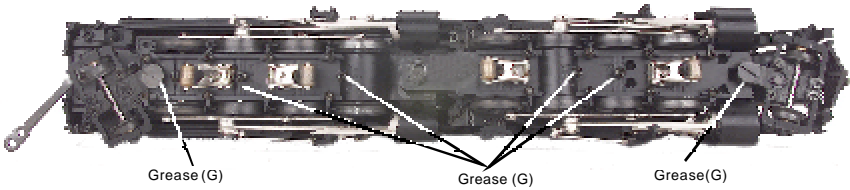
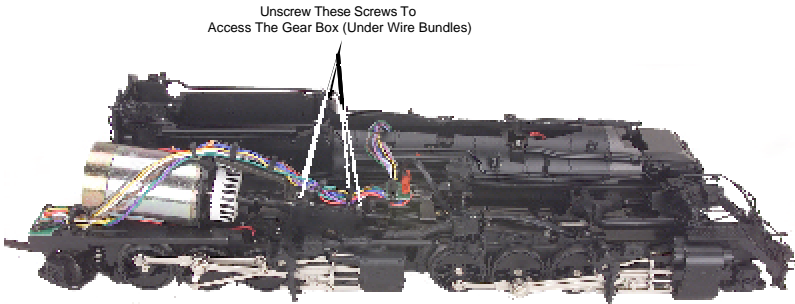

Figure 6: Removing The Body And Lubricating The Grease Points
Figure 7: Motor Gearing Grease Plate Screws
3. Remove the Phillips screw (marked “GREASE”) located at each set of wheels (Fig. 6) and the gearbox cover screws (Fig. 7).
You should also grease the leading and trailing locomotive truck tongues to enhance their ability to slide on the chassis. Follow the grease points shown on Fig. 6.